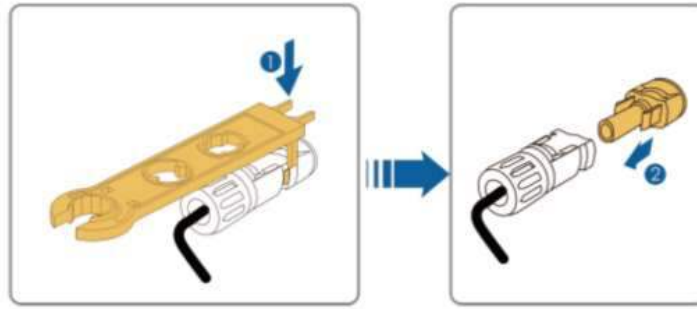

Fig. 4-50 Remove the DC connector
- 5) Insert a MC4 wrench into the notch and press the wrench with an appropriate force to remove the DC connector (Fig. 4-50).